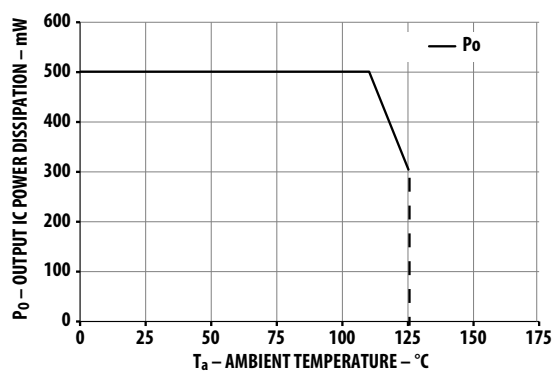

Figure 2. Output IC Power Dissipation Derating Chart
2. Derate linearly above 110 °C free-air temperature at a rate of 13 mW/°C. Refer to Figure 2 from Output IC Power Dissipation Derating Chart.